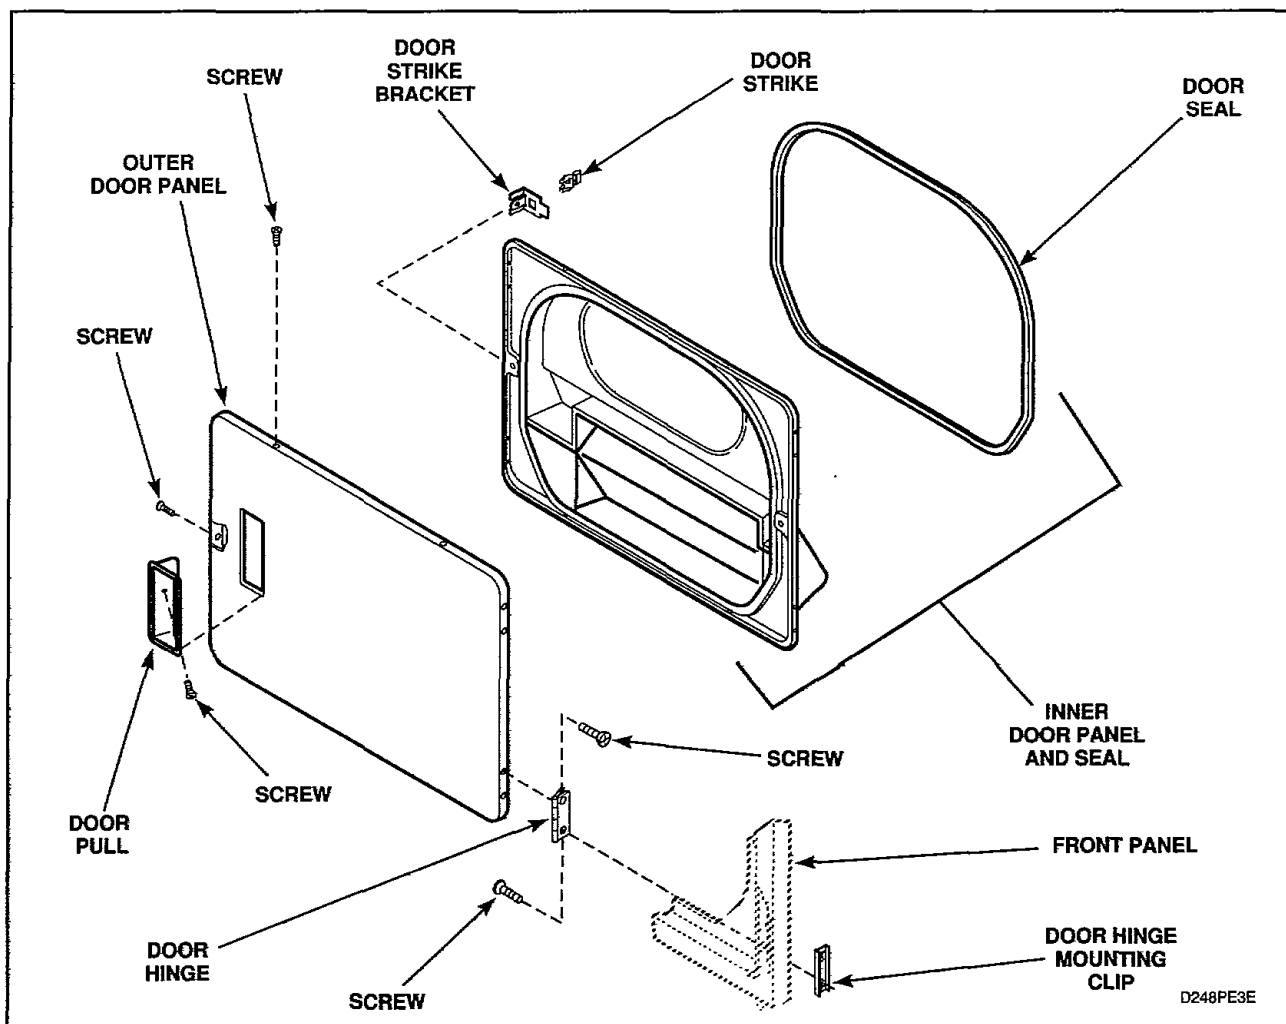

Figure 24
- Remove screw from door pull and the remaining seven screws around the door perimeter and separate panels, *Figure 24*.
- Remove screw holding door strike and bracket to loading door, *Figure 24*, and remove strike and bracket.